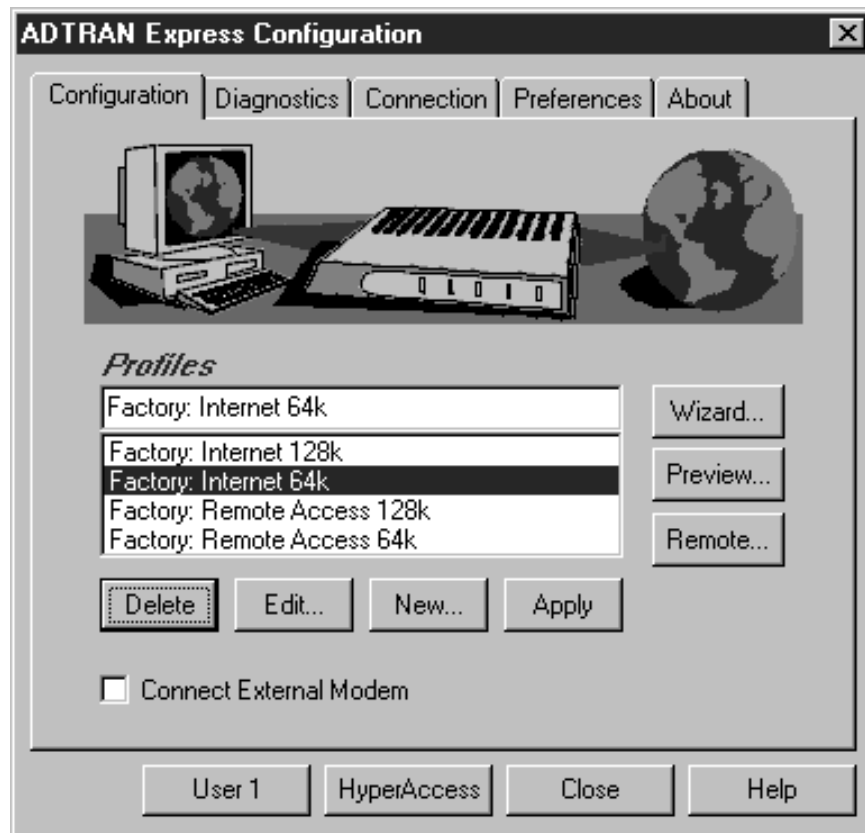
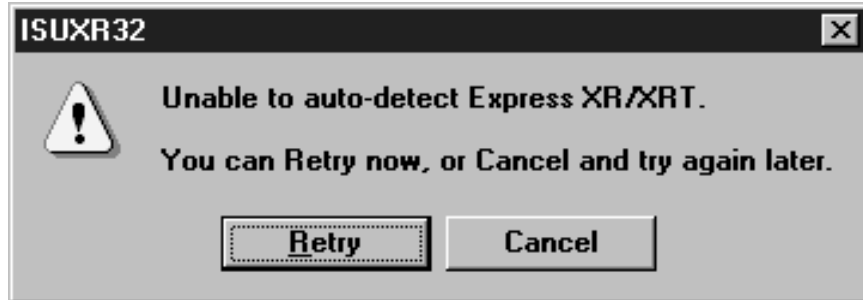

Figure 2-4
Figure 2-5
1. From the **Start** button, choose **Programs**, then **ADTRAN**, then double click **Express Configuration**. After auto-detection, the screen shown in Figure 2-4 is displayed; skip to Step 5. If the Express XR/XRT cannot be auto-detected the error message shown in Figure 2-5 is displayed.
2. If the error message shown in Figure 2-5 is displayed, click **Cancel**. The screen shown in Figure 2-4 is displayed.
4. Check the power and the cable connections then select the **Auto-Detect** button. If the error message shown in Figure 2-5 is displayed again, see the chapter *Troubleshooting*.